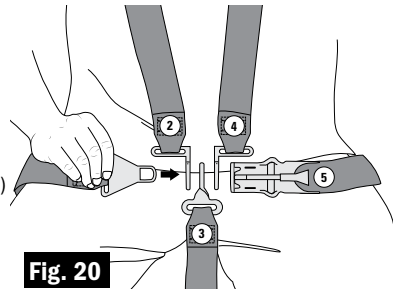

Fig. 20
2. Bring right hand shoulder web over shoulder, insert slot of right shoulder link onto the lap belt link. (Fig. 20)
3. Bring center web up between legs and insert center link onto lap belt link next to right shoulder link. (Fig. 20)
4. Bring left hand shoulder web over shoulder, insert slot of shoulder link onto the lap belt link next to center link. (Fig. 20)
5. Insert lap belt link into lever located on the opposite lap belt. (Fig. 20)